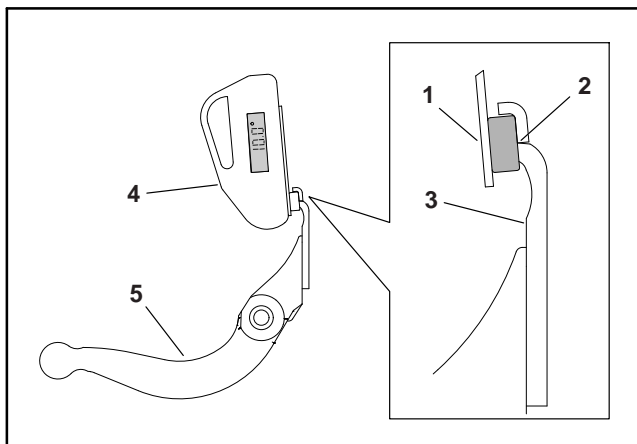

Figure 16
3. Remove the angle indicator and place the angle-indicator mount on the edge of the bedknife so the face of the magnet is flat against the top of the bedknife (Fig. 16).
4. Place the angle indicator on the mount with the digital display facing you as shown (Fig. 16). The angle displayed on the indicator is the current bedknife top angle. The angle measured should be between 8° and 12° .